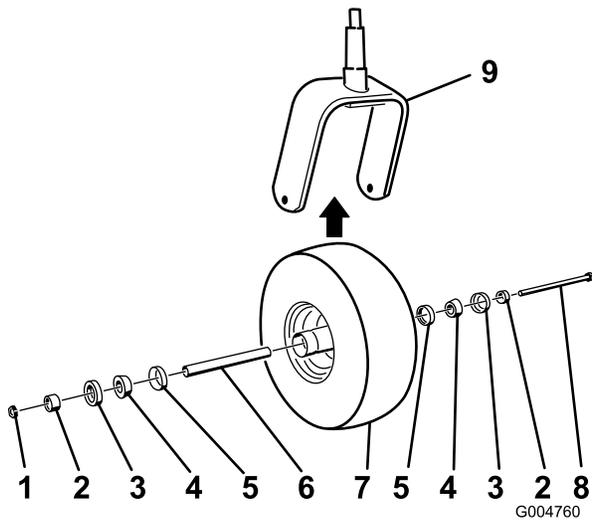

Figure 48
2. Remove the locknut from the bolt holding the caster wheel assembly between the caster fork (Figure 48).
5. Assemble the caster wheel by pushing the cone bearings and seals, packed with grease, into the wheel hub, positioned as shown in Figure 48.